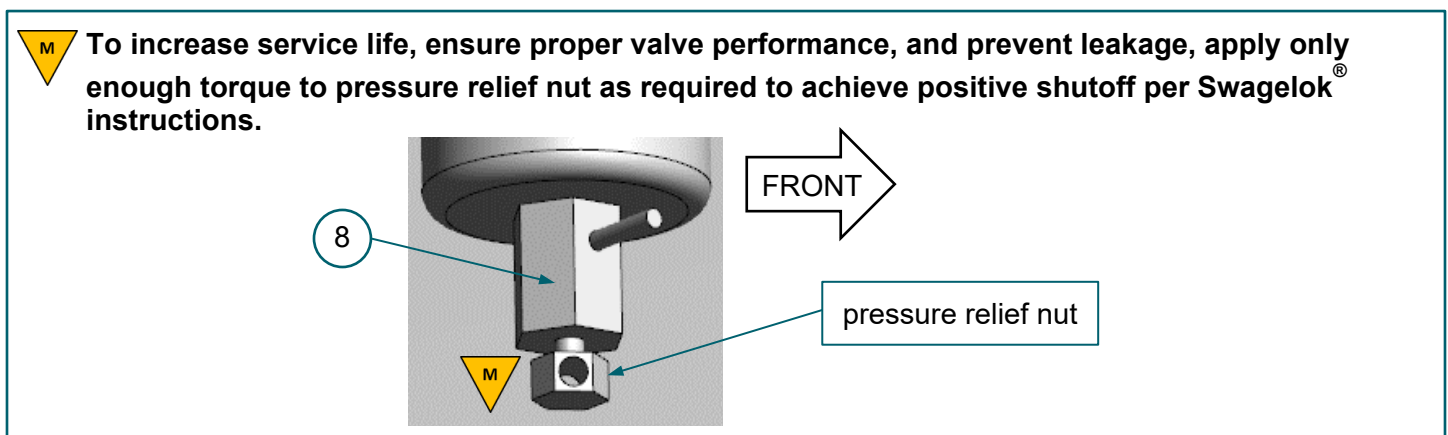

FIGURE 4-4. (8) bleed valve, pressure relief nut
- Use a 7/16-in wrench to slowly loosen the pressure relief nut. **FIGURE 4-4**
- Tighten the pressure relief nut to finger tight then use a 7/16-in wrench to apply just enough pressure to stop the flow of fuel. **FIGURE 4-4**